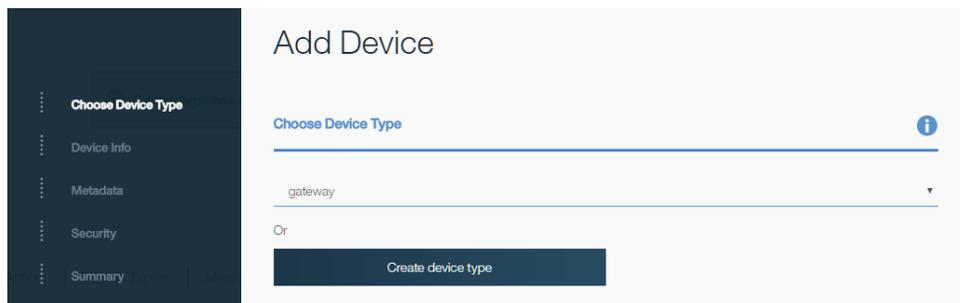

Figure 22. Choose Device Type
- Click **Next**—ignoring the subsequent options—until reaching the **Add Device** screen that is shown in Figure 22. From the **Choose Device Type** drop-down menu, select *gateway*. Click **Next**.